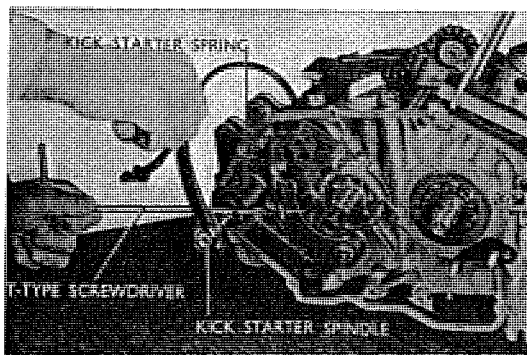

Fig. 3.132 Assembling kick starter spring
2. At assembling, especially of the kick starter spring, operation is easily performed if reference is made to the figure. (Refer to Fig. 3.132)